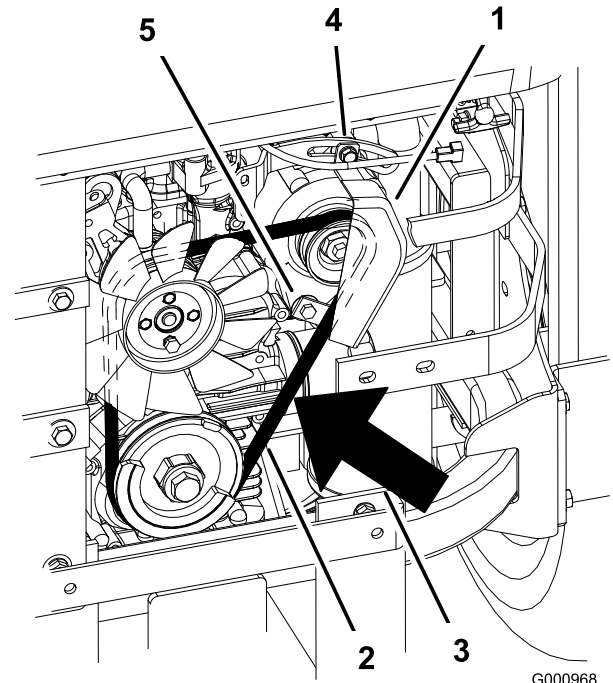

Figure 72
2. Adjust the alternator to the outside until there is 1/4 to 11/32 inch (7 to 9 mm) deflection in the belt between the engine and the alternator pulleys with 22.1 lbs of force (10 kgf) (Figure 72).
5. If the deflection is correct, tighten the bottom and upper bolt (Figure 72).